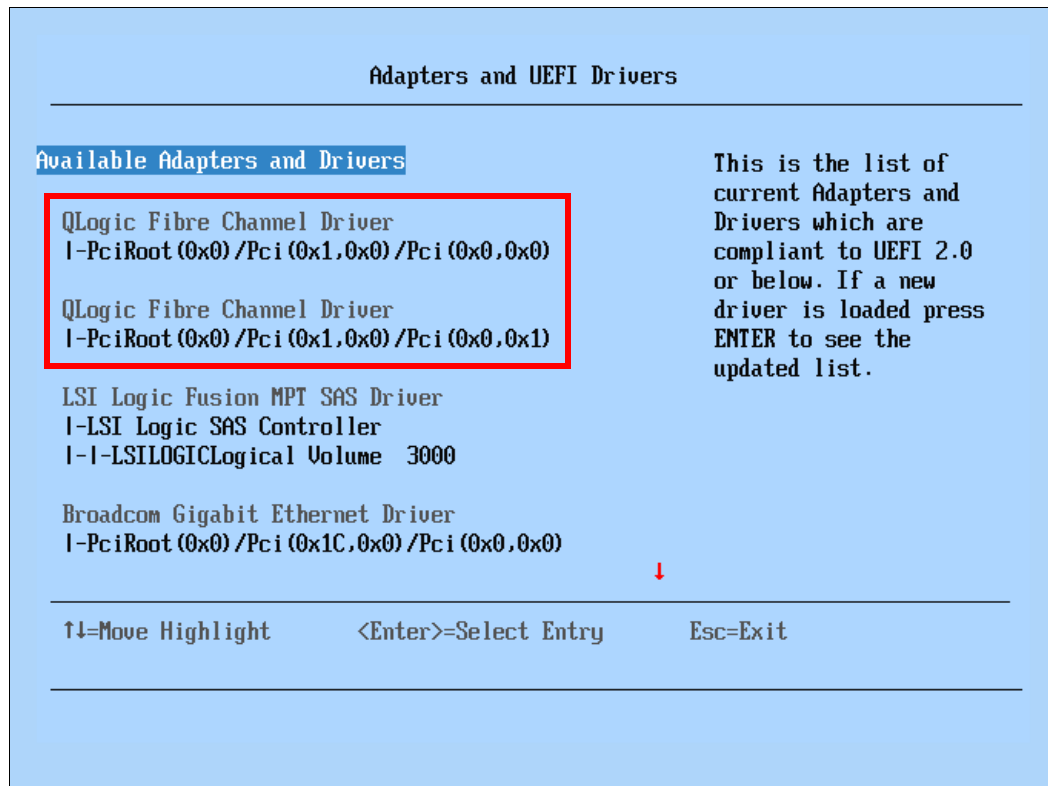

Figure 6-80 Adapters visible in UEFI
- ▶ Check if UEFI recognizes the adapter. Select **UEFI** → **System Settings** → **Adapters and UEFI Drivers**. The Adapters and UEFI Drivers panel displays, as shown in Figure 6-80. You need to see Card - HBA. If not, reflash the UEFI, IMM, and Firmware of the HBA and check again.